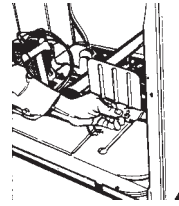

Fig. 4-27
1. Remove the screw from heat shield. (Fig. 4-27) Remove the wires to the heat element.